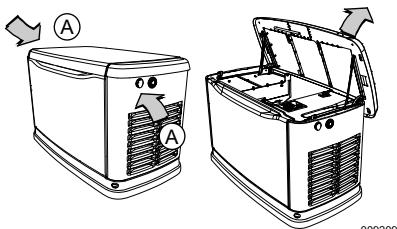

Figure 3-1. Opening the Lid
2. See **Figure 3-1**. Two locks (A) secure lid; one on each side. Open protective rubber cap to access keyhole.